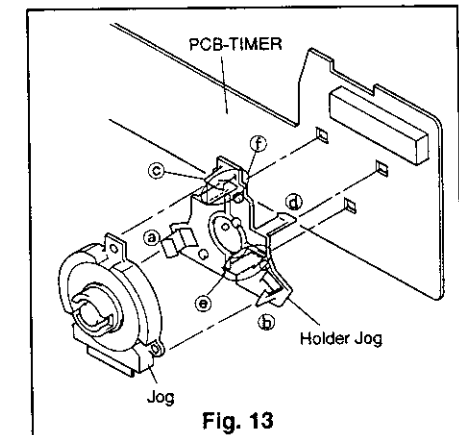

Fig. 13
- ④ Remove three catches (a, b and c) shown in Fig. 13 to remove the Jog.
- ⑤ Remove three catches (d, e and f), and remove the Holder Jog shown in Fig. 13.